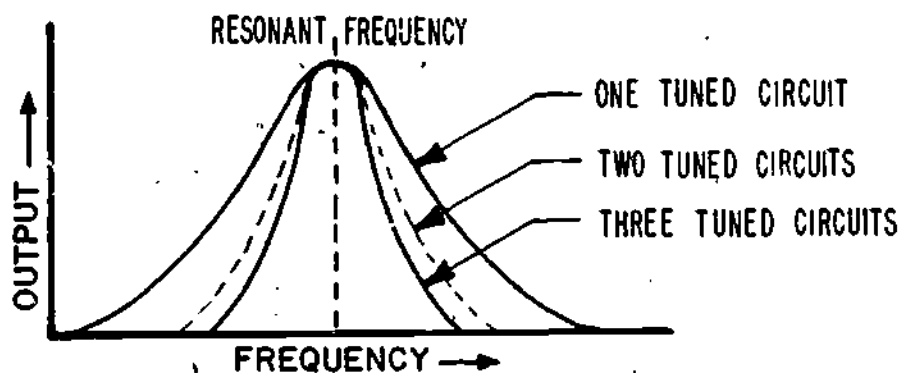

Figure 5
7. When we add more resonant circuits tuned to the same frequency in the signal path of an RF amplifier, we get a narrower bandwidth (that is, more selectivity). Figure 5 shows the relationship between the number of tuned circuits and frequency response.